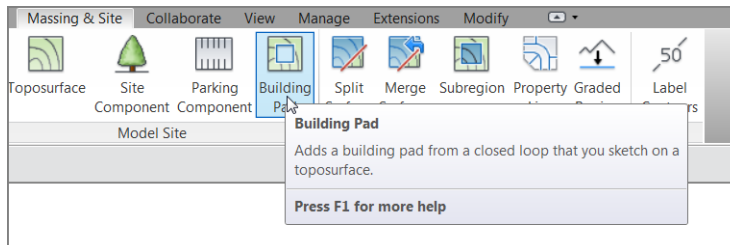

FIGURE 18.21: The Building Pad button
2. On the Massing & Site tab, click the Building Pad button, as shown in Figure 18.21.